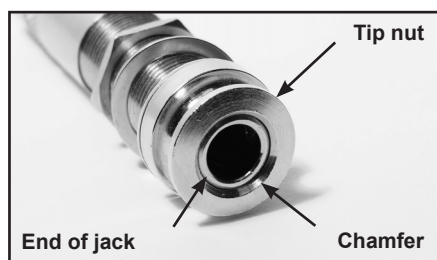

Figure 15e – Optimal alignment
9. Screw on the tip nut as tightly as you can, as there is the potential for an annoying buzz if it is not tightened properly. You can use pliers, but try not to mar the edges. If correctly installed, the end of the threaded portion of the jack should be slightly visible in the chamfer at the end of the tip nut (*see figure 15e*). Your cable plug needs to be able to make a firm connection with the jack; it should snap distinctly into place when inserted. If the threaded portion of the jack is too far inside the tip nut, the cable plug can be stopped by the tip nut before it makes a good connection with the jack. If this is the case, you will need to remove the tip nut, loosen the retaining nut, adjust the position of the inner nut so that the end of the jack barrel is very slightly further out, retighten the retaining nut, and re-install the tip nut.